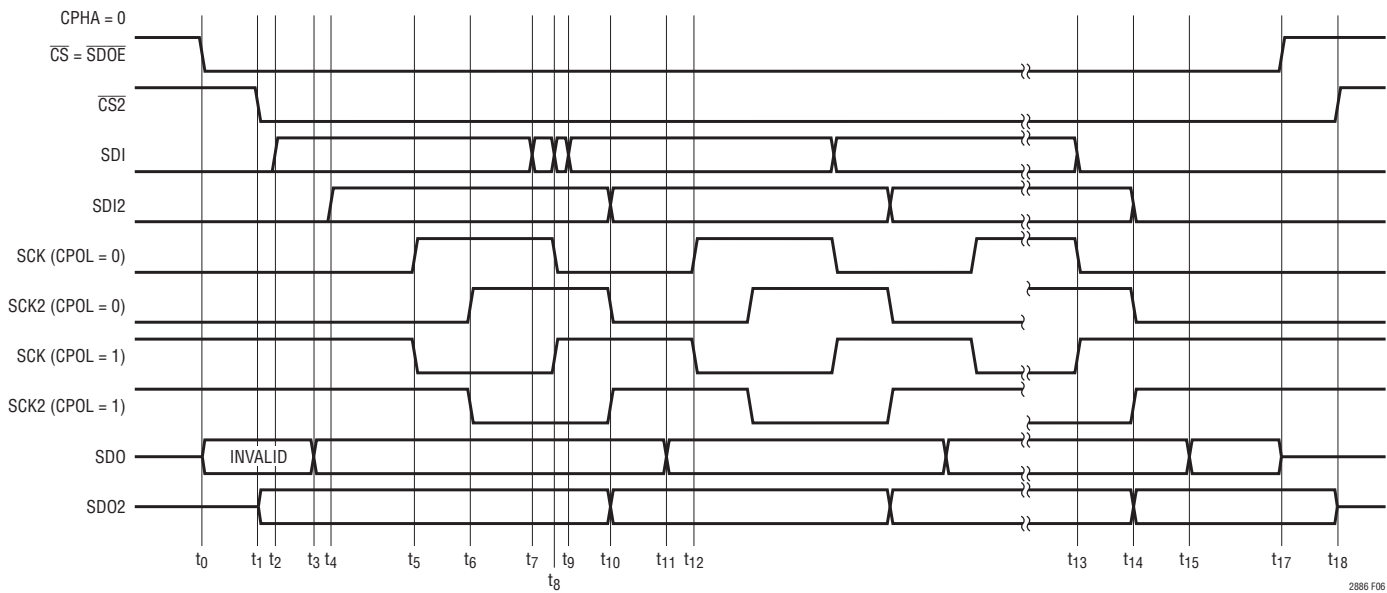
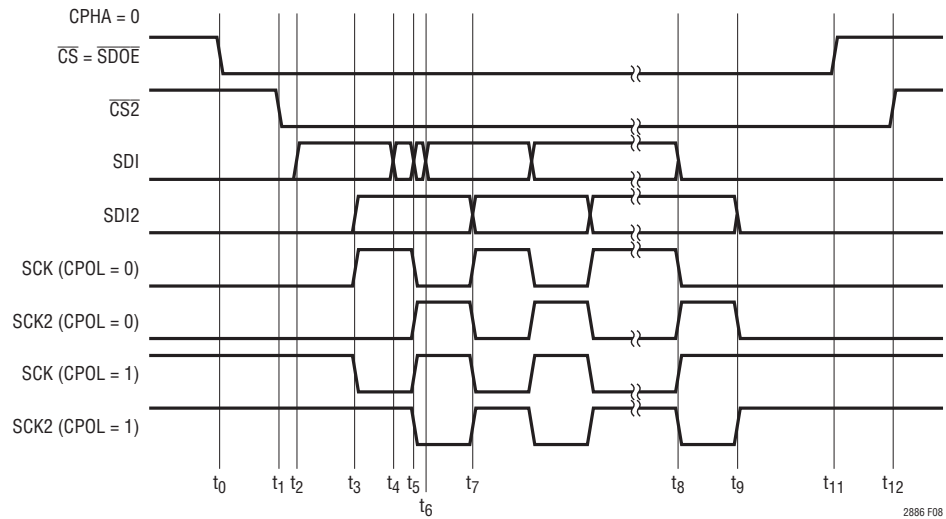

Figure 6. SPI Timing, Bidirectional, CPHA = 0
Figure 8. SPI Timing, Unidirectional, CPHA = 0
The LTM2886-S provides a SPI compatible isolated interface. The maximum data rate is a function of the inherent channel propagation delays, channel to channel pulse width uncertainty, and data direction requirements. Channel timing is detailed in Figures 6 through 9 and Tables 2 and 3. The SPI protocol supports four unique timing configurations defined by the clock polarity (CPOL) and clock phase (CPHA) summarized in Table 1.
The maximum data rate for bidirectional communication is 4MHz, based on a synchronous system, as detailed in the timing waveforms. Slightly higher data rates may be achieved by skewing the clock duty cycle and minimizing the SDO to SCK set-up time, however the clock rate is still dominated by the system propagation delays. A discussion of the critical timing paths relative to Figures 6 and 7 follows.
Maximum data rate for single direction communication, master to slave, is 8MHz, limited by the systems encoding/decoding scheme or propagation delay. Timing details for both variations of clock phase are shown in Figures 8 and 9 and Table 3.
- SDI and SCK set-up data transition occur within the same data packet. Referencing Figure 6, SDI can precede SCK by up to 13ns ( $t_7 \rightarrow t_8$ ) or lag SCK by 3ns ( $t_8 \rightarrow t_9$ ) and not violate this requirement. Similarly in Figure 8, SDI can precede SCK by up to 13ns ( $t_4 \rightarrow t_5$ ) or lag SCK by 3ns ( $t_5 \rightarrow t_6$ ).